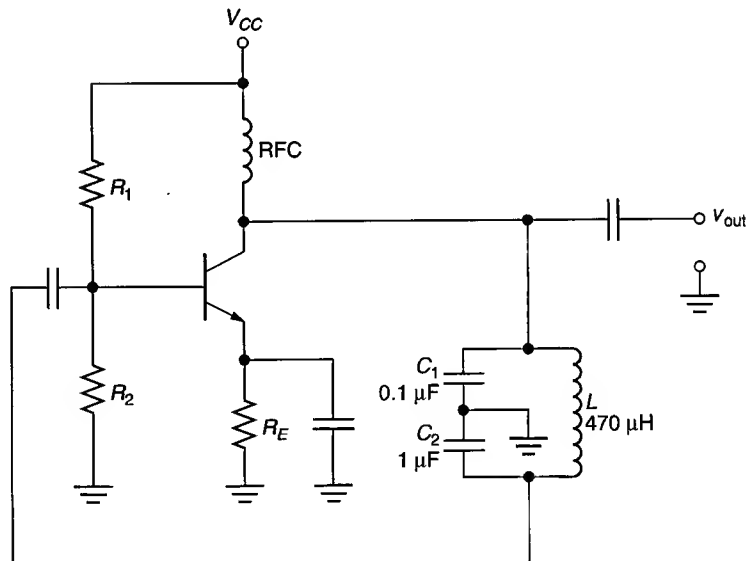

FIGURE 18.26
3. Calculate the operating frequency for the circuit shown in Figure 18.26.
5. A circuit like the one shown in Figure 18.26 has values of $C_1 = 10$ nF, $C_2 = 1$ μ F, and $L_1 = 3.3$ mH. Calculate the operating frequency, the value of α_v , and the value of A_v for the circuit.
6. A circuit like the one shown in Figure 18.26 has values of $C_1 = 1$ μ F, $C_2 = 10$ μ F, and $L_1 = 3.3$ mH. Calculate the operating frequency, the value of α_v , and the value of A_v for the circuit.
7. A circuit like the one shown in Figure 18.26 has values of $C_1 = 0.22$ μ F, $C_2 = 3.3$ μ F, and $L_1 = 330$ μ H. Calculate the operating frequency, the value of α_v , and the value of A_v for the circuit.